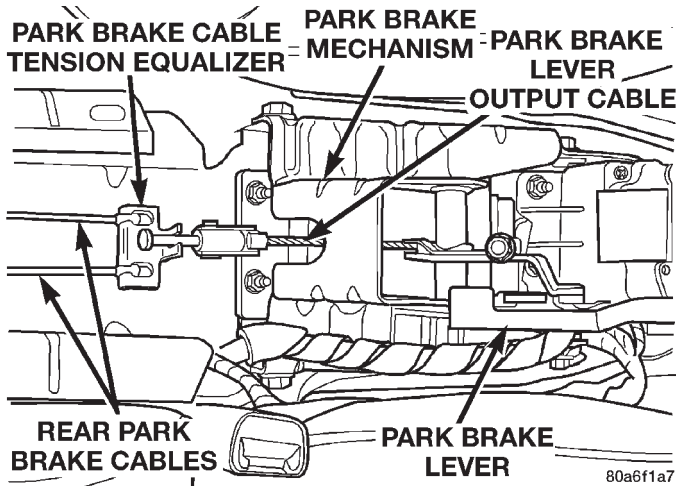

Fig. 202 Park Brake Cable Tension Equalizer
(10) Remove the park brake cable tension equalizer from the park brake lever output cable and the rear park brake cables (Fig. 202).
(11) Install a **NEW** park brake cable tension equalizer on the park brake lever output cable and rear park brake cables (Fig. 202).